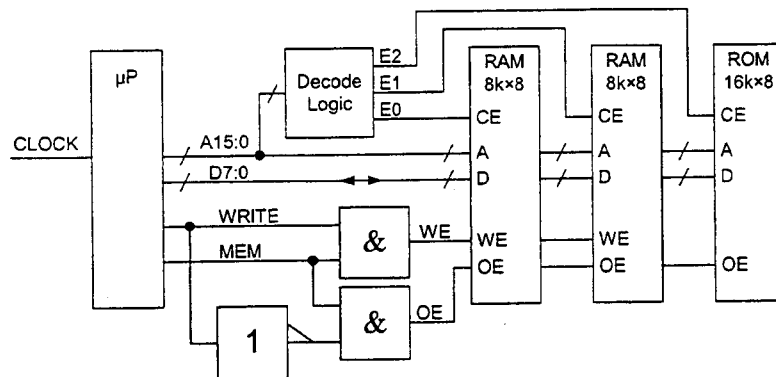

Figure 3.1
3. The circuit of *Figure 3.1* shows a microprocessor connected to three memory circuits: two 8k×8bit read/write memories (RAMs) and one 16k×8bit read-only memory (ROM). The A, D, WE and OE signals are connected to multiple memory circuits as indicated in the Figure. The signal CLOCK has period T and unity mark:space ratio.
(a) The circuit module marked “Decode Logic” in *Figure 3.1* generates the chip-enable signals for the memory circuits. Design the module so that E0, E1 and E2 are true if and only if A15:0 lies in the hexadecimal address ranges \$0000-\$1FFF, \$2000-\$3FFF and \$B000-\$EFFF respectively. You may use only AND, NAND, OR, NOR gates and Inverters. [7]